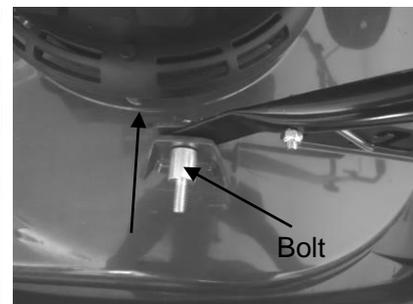

Fig. 2C
3. Fix the lower handle into the unit body with bolts, pins and locking knobs. (Fig. 2C/2D/2E)